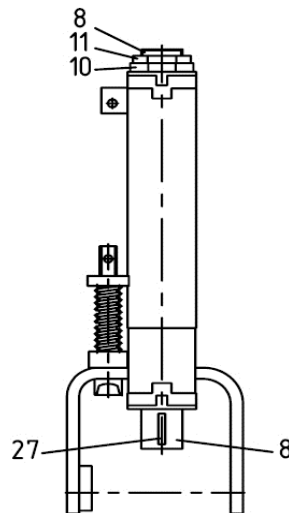

Figure 7.26
- i) extract segment boss 27 (Figure 7.26);
- f) put segment pin 27 (Figure 7.26);